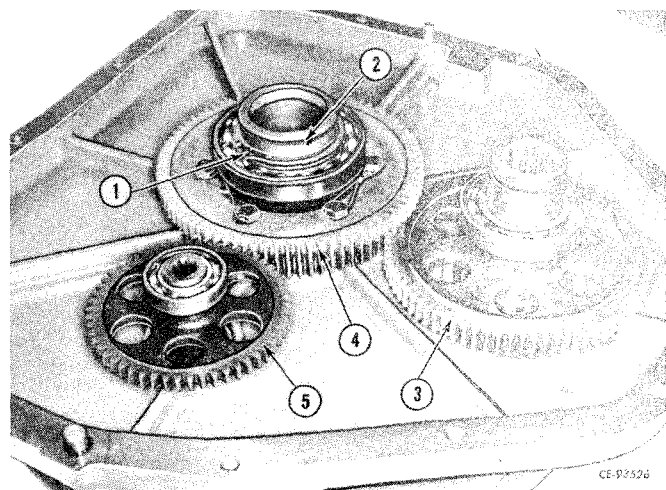

Figure 3-13
Remove the small spur gear (5, Fig. 3-13). Remove and discard the lock-type seal ring (2). Remove the snap ring (1) from the impeller hub